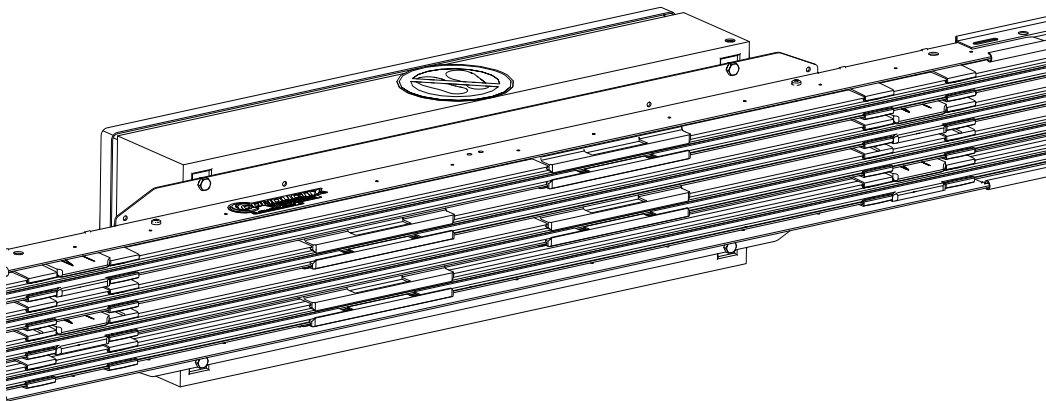

Fig. 40: All conductor rail poles are installed
5. Install all other conductor rail poles in the same way and remove the auxiliary consoles from the ProShell support profile (see Fig. 40).